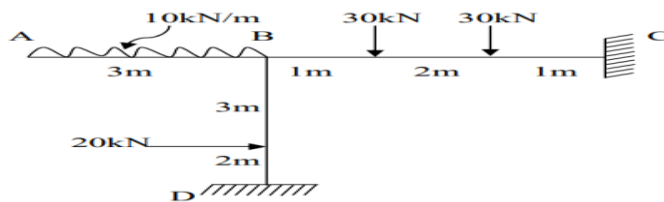

Fig. Q2
2. Analyse the frame shown in Fig. Q2 by slope deflection method. Draw SFD and BMD. 20 (3 :1: 2.2.1)